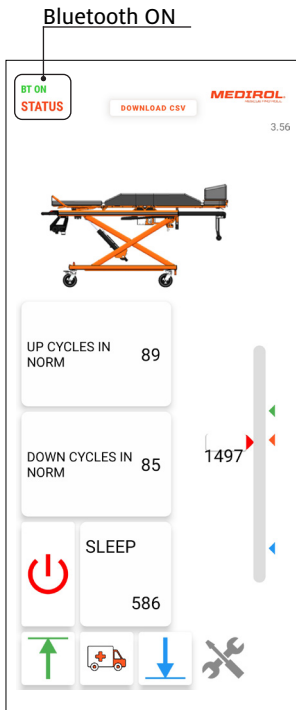

Fig. 4
6. After a successful connection, the “BT ON” indicator in the top left corner lights up green (Fig. 4) and the display on the stretcher trolley lights up yellow (Fig. 6). The connection may take up to several tens of seconds.